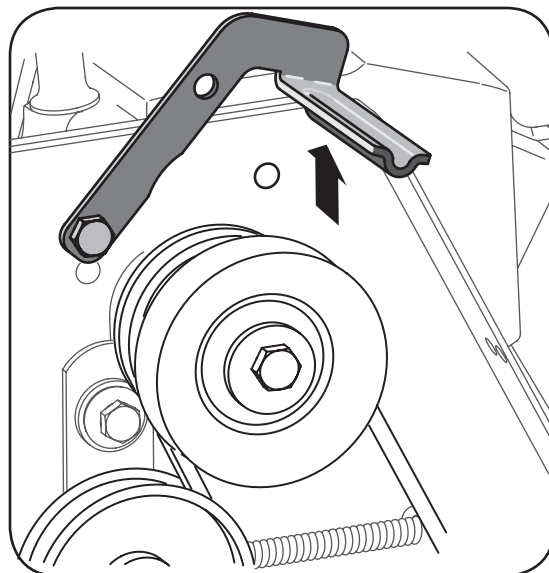

Figure 6-7
b. Push the belt keeper and bracket up off the engine pulley. See Figure 6-7.